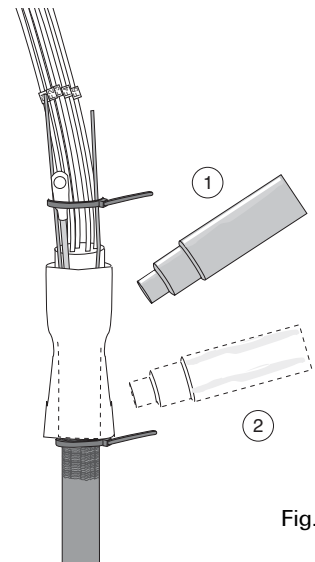
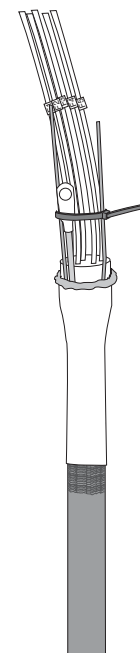

Fig. 8
Fig. 9
13. Place a tie wrap 1" below the ring cut. Slide the 4" long black heat-shrinkable tube over the cable components and allow it to rest on the tie wrap. The top of the tube should be roughly 1/2" below the top of the funnel. 14. Place a tie wrap around the transportation tubes to hold them in place. (Figure 8)
15. With the CV1981 on setting 6, begin shrinking the tube around the top of the funnel (Figure 8). After recovering 1" of tube on funnel, pause for 15 seconds to allow the adhesive to set on the funnel. Complete shrinking the tube. (Figure 9)